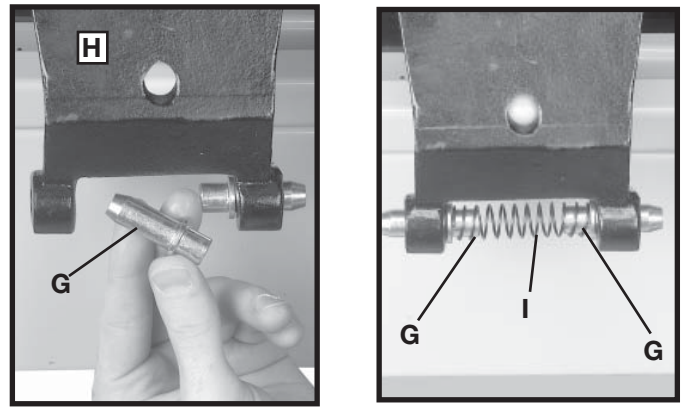
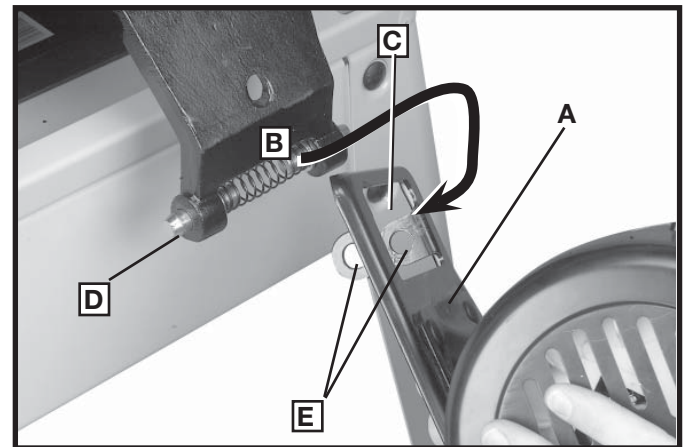

Fig. 32
Fig. 33
1. Insert the tapered end of pin (G) Fig. 32, into the inside holes in each side of bracket (H).
3. Assemble spring (I) Fig. 32, onto the non-tapered end of each pin (G) as shown.
4. Position motor and motor mounting plate (A) Fig. 33, below bracket (B) to allow bracket arm to slide through large opening (C) in motor mounting plate (A).
5. Depress pins, one of which is shown at (D) Fig. 33, on both sides of bracket (B) and lift up motor mounting plate (A) until pins (D) are engaged in holes (E) Fig. 33, of motor mounting plate (A).
To remove the motor for transport through narrow doorways, first unplug the motor cord from the switch cord. Then, while holding the motor, press in on pins (G) Fig. 32 and lower motor off of bracket (B) Fig. 33.